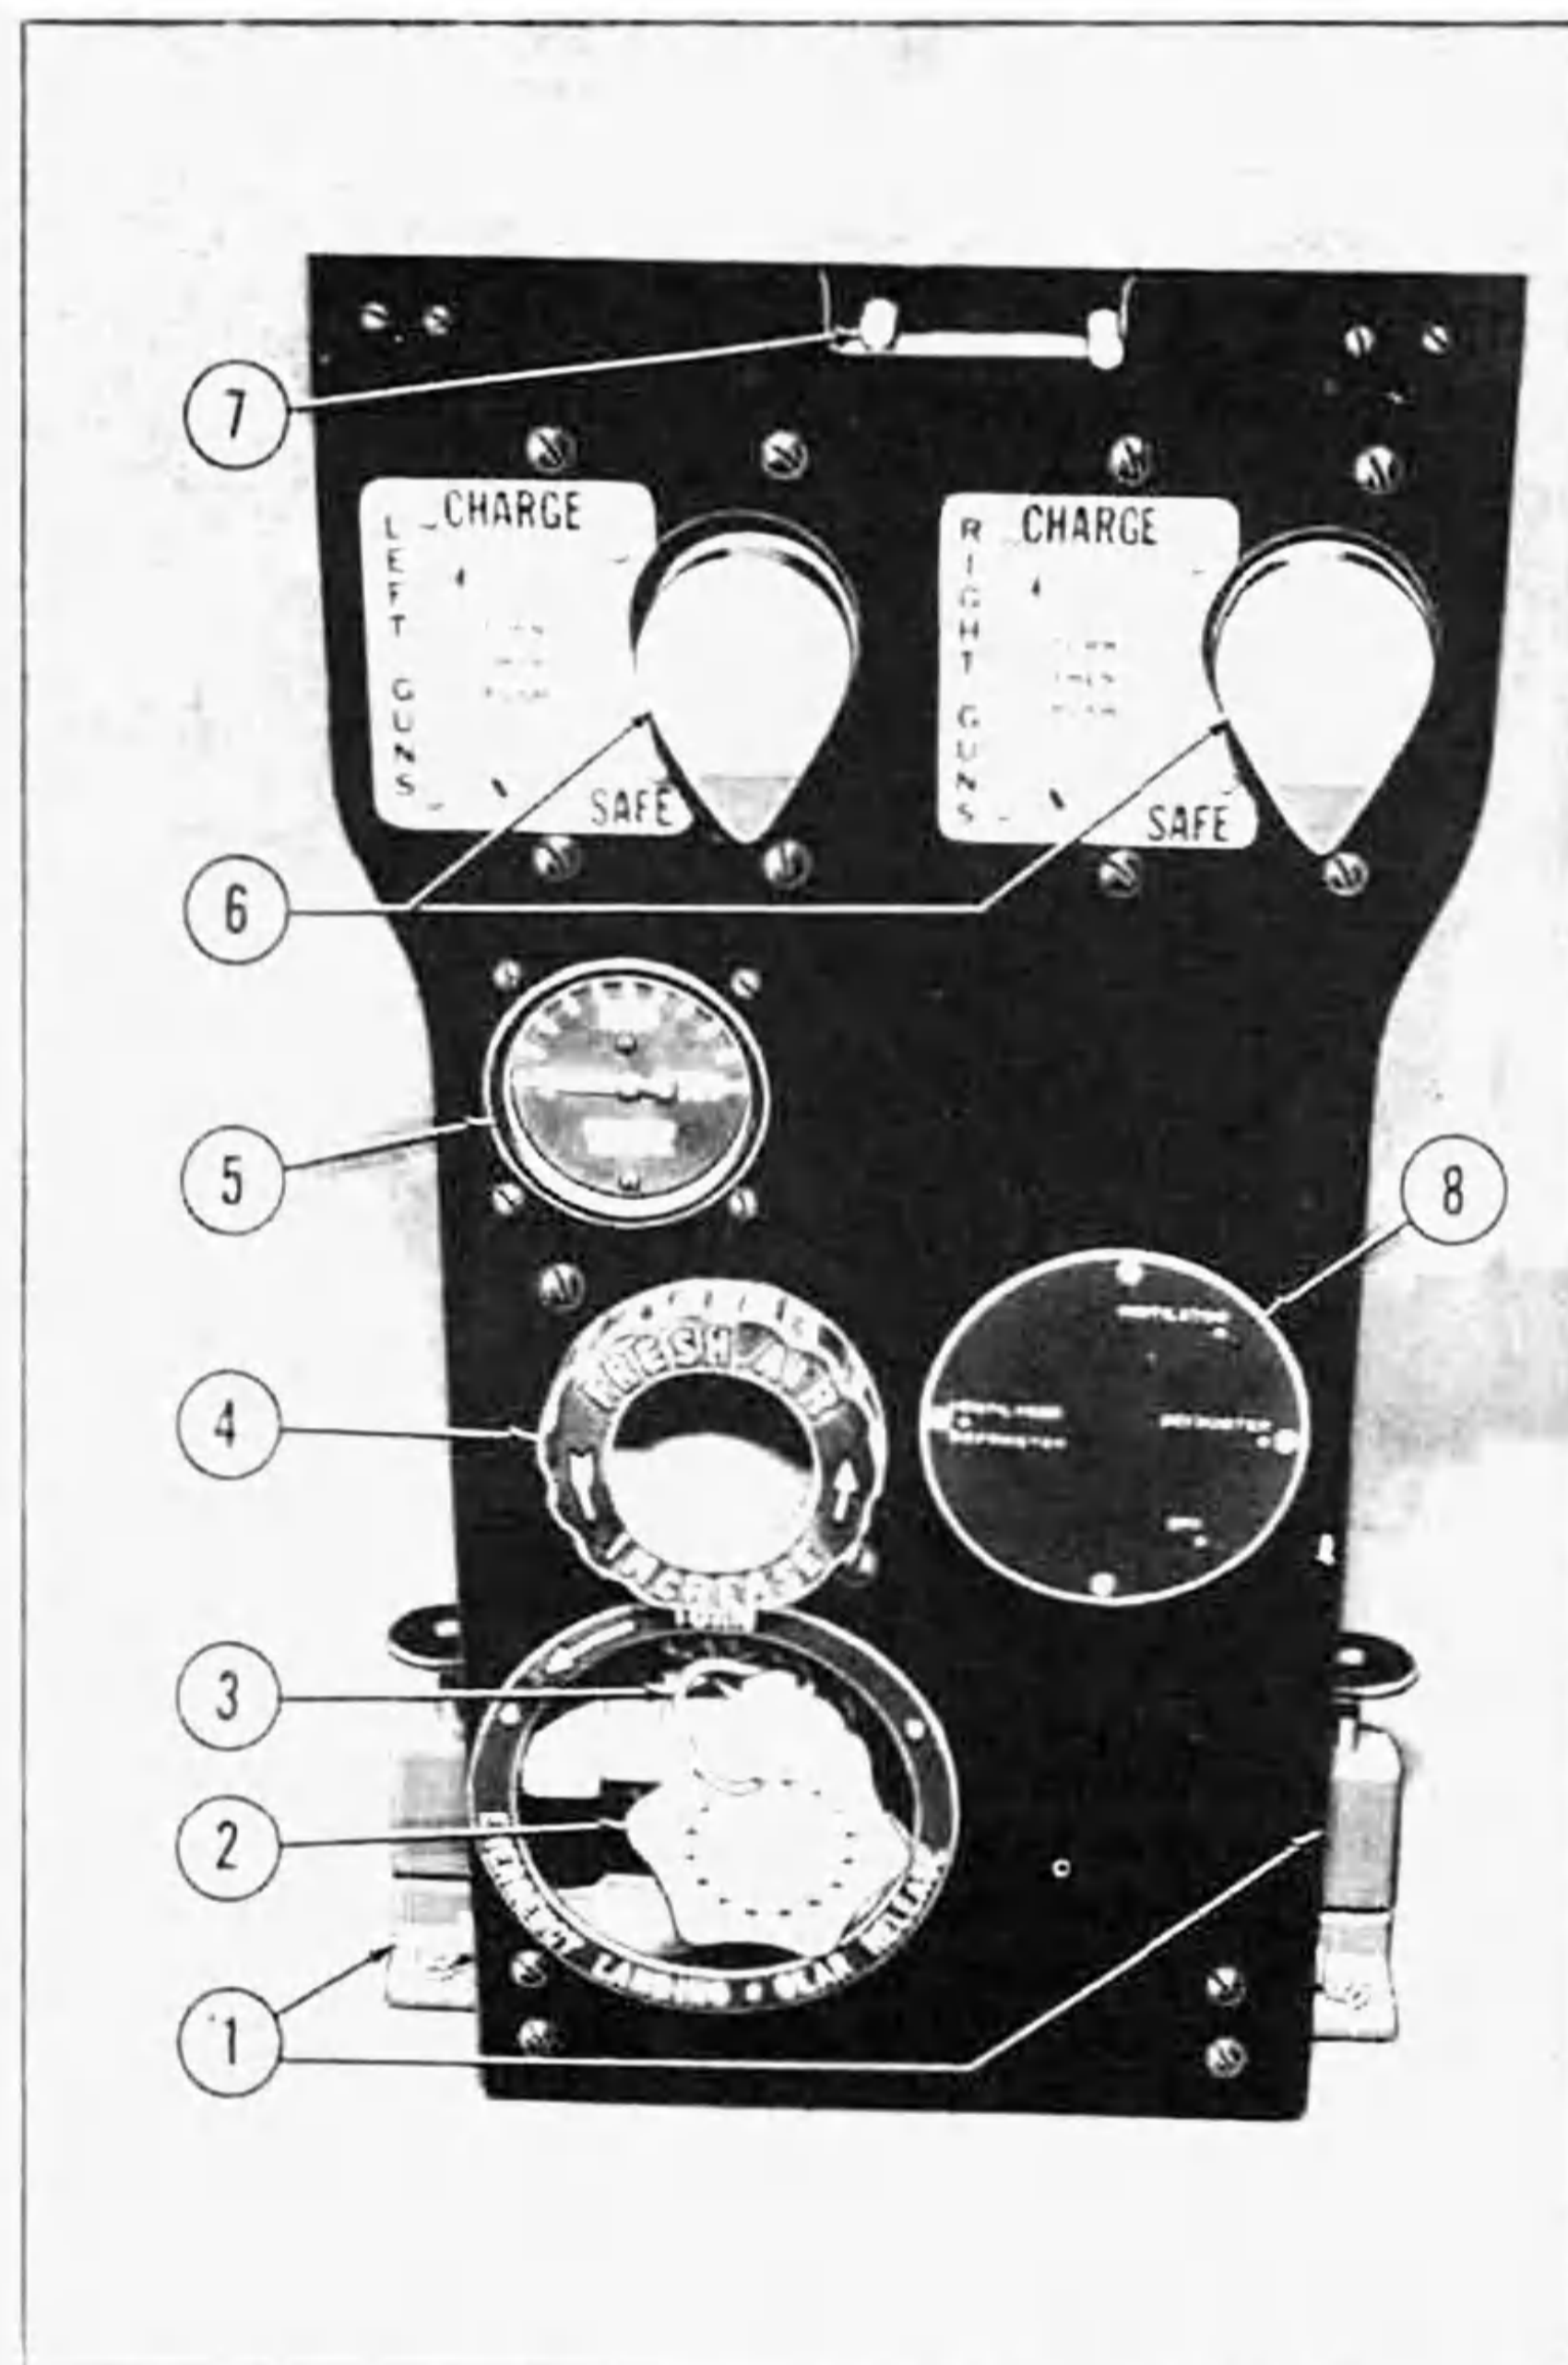

Figure 33 — Auxiliary Instrument Panel
(2) Pull the safety pin from the emergency CO₂ control and turn the emergency CO₂ valve full left. (See 3 and 2, figure 33.)
1. Initial failure to fire may result from insufficient hydraulic pressure at the chargers. Check the hydraulic gauge (see 5, figure 33) and if necessary, operate the hand pump to bring the pressure up.